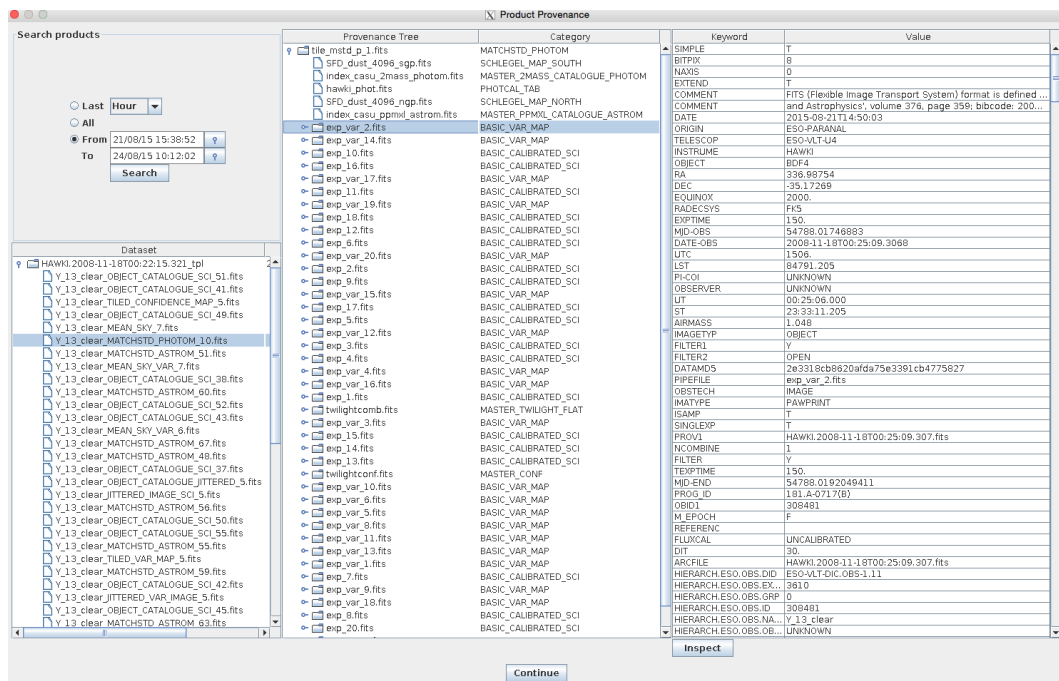

Figure 6.4: *The Product Explorer shows all datasets reduced in previous executions together with the full reduction chain for all the pipeline products..*
9. Once the reduction of all datasets has finished, a pop-up window called *Product Explorer* will appear, showing the datasets which have been reduced together with the list of final products. This actor allows the user to inspect the final data products, as well as to search and inspect the input data used to create any of the products of the workflow. Figure 6.4 shows the *Product Explorer* window. A full description of the *Product Explorer* will be presented in Section 8.3.3.